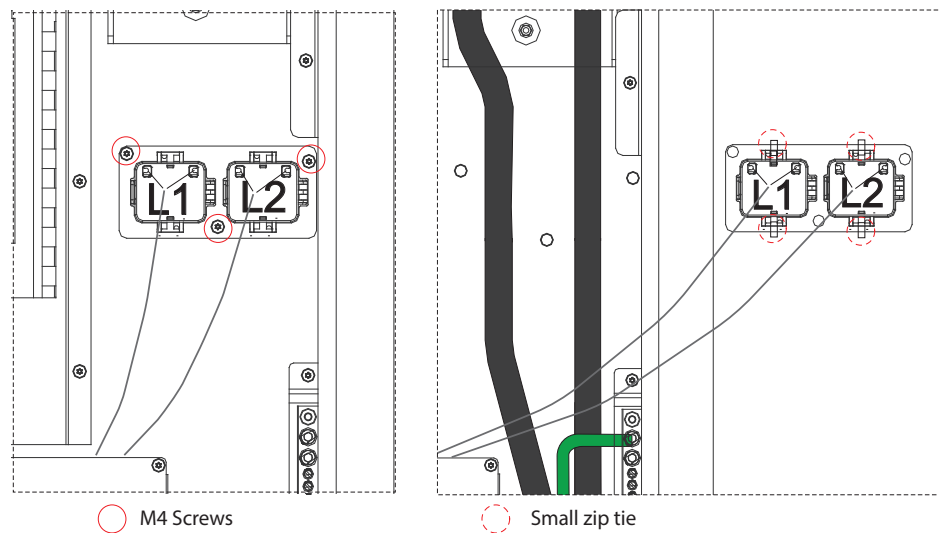

Figure 29: Location of CT bracket screws and zip ties holding CTs to bracket
- Apply PCS warning labels to CTs during installation. Only in cases where the conductors in the Hub will be greater than or equal to (\geq) AWG 1/0, you must remove the bracket that the CTs are attached to, remove the CTs from the bracket, and then attach the individual CTs to the conductors. (Figure 29)